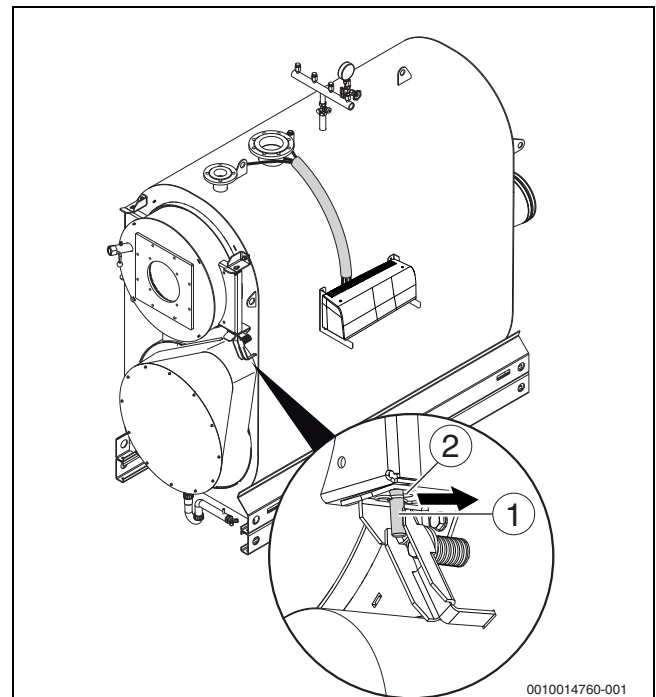

Fig. 14 Loosen retaining split pin
- ▶ Tighten the compression spring with the Allen screw until the rocker arm to the hinge pin has some play (→ Figure 14, page 20).
- ▶ Pull the hinge pin (→ Figure 14, [1], page 20) upwards out of the hinge hole.
- ▶ Fit the retaining split pin through the hinge pin below the lower door stay (→ Figure 14, page 20).